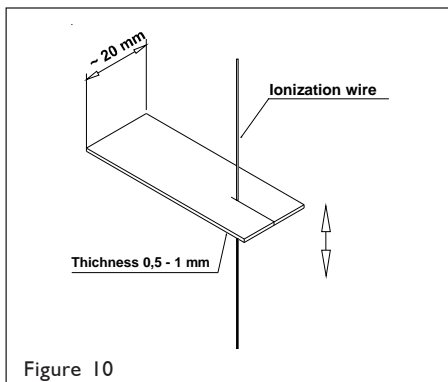

Figure 10
6. Clean the ionisation wires of the cell carefully with a scouring pad or with a thin strip with a slit cut to it (figure 10). Dirty ionisation wires can cause fizzing and flicking and the air purifier no longer functions satisfactorily. **ATTENTION!** Be careful with the edges of the collector plates, they are sharp.